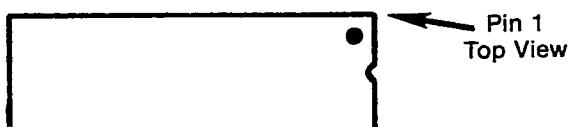

Figure 3.1
1. Transfer the 40 pin IC from location U421 on the Zenith logic board to location U27 near the top center of the GP-19 logic board. U421 on the Zenith logic board is positioned approximately 4 inches from the top of the logic board and just to the right of center. Make sure the IC is inserted with pin 1 toward the right side of the GP-19 logic board. Note: The serial number appears on the "left" side of the GP-19 logic board, and the metal heatsink is located on the "top" of the board. Pin 1 of the IC is identified in Figure 3.1.
Recheck to make sure the ICs transferred to the GP-19 logic board have pin 1 correctly positioned. (See Figure 3.1.) Pin 1 should be on the right end of the IC as viewed from the component side of the GP-19 logic board. The writing on the ICs should appear upside-down.